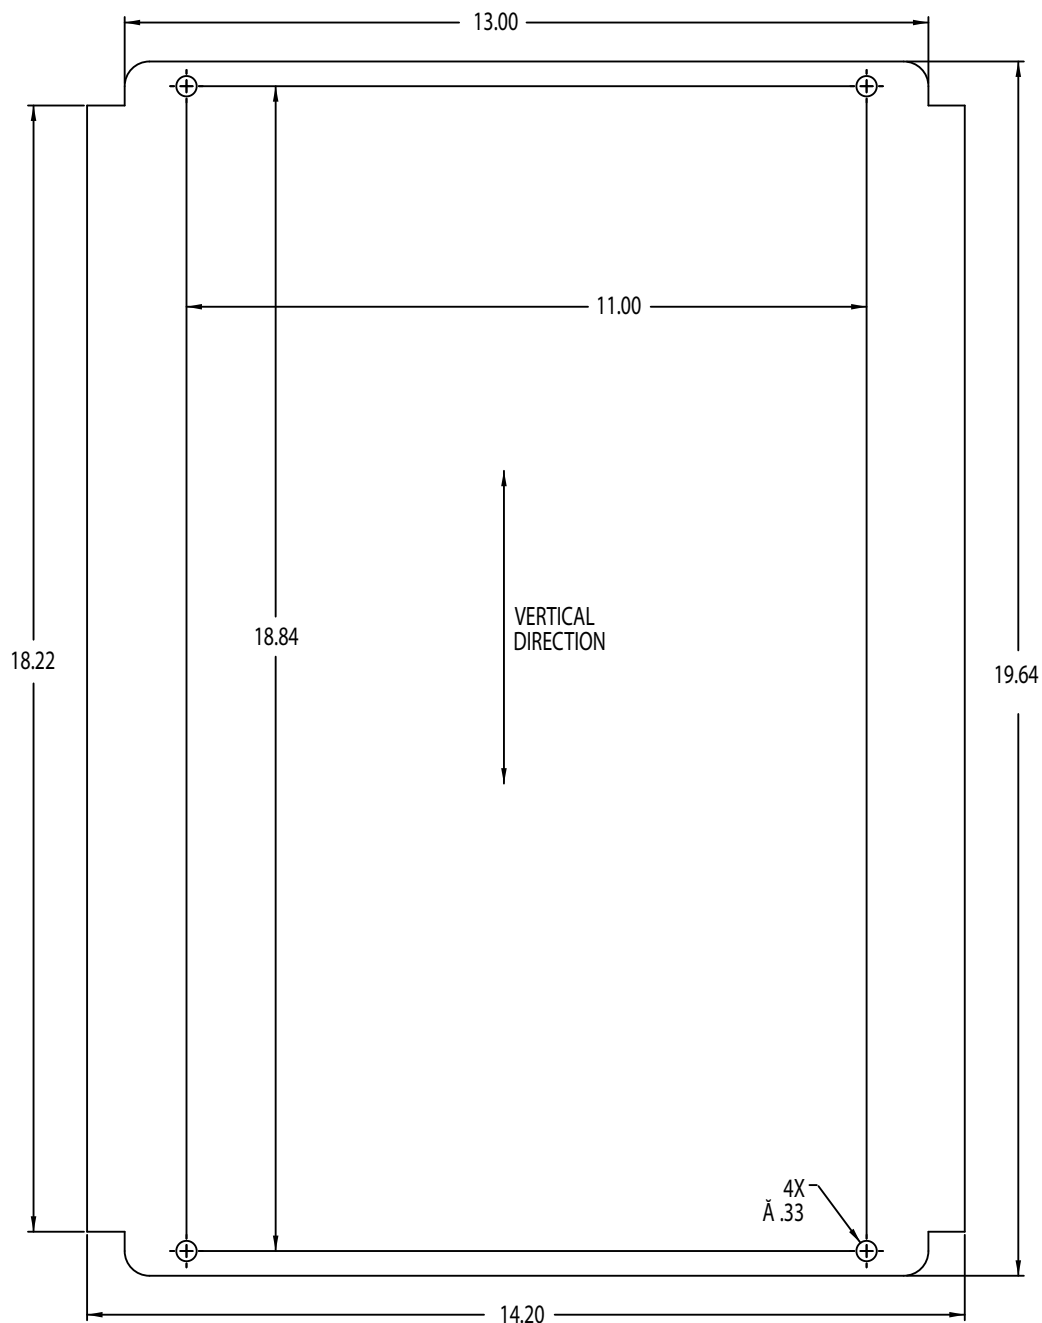

Figure 2-14. Wall Mount Dimensions
1. Using the wall mount as a template, mark the screw locations. See Figure 2-14 for dimensions.
This illustration is not to scale. It is for illustration purposes only. Use the dimensions to mark the holes for the wall mount. Do not use Figure 2-14 as a template.